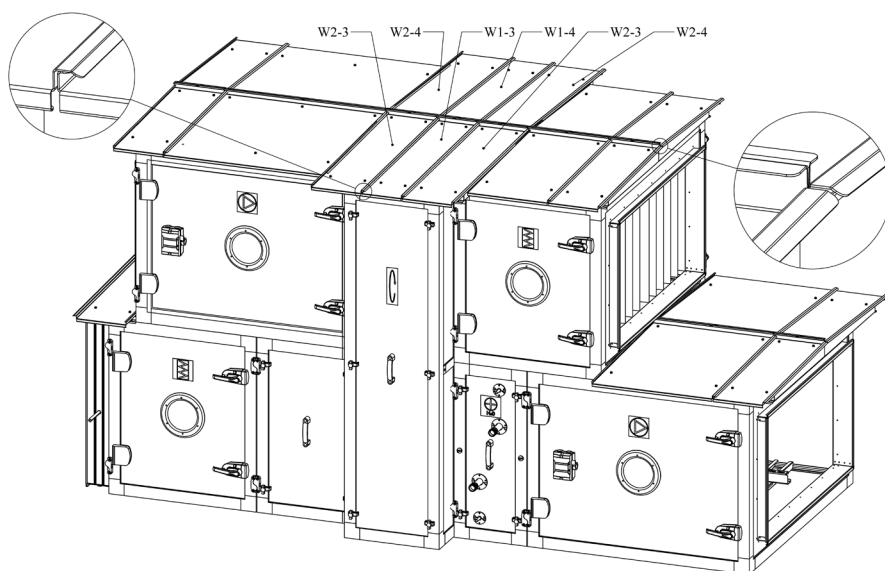

Figure 11.5
8. Fit the roof segments of a certain width with the same spacing of the frame and attach to the frame by self-taping screws supplied with the unit as shown in Figure 11.5.